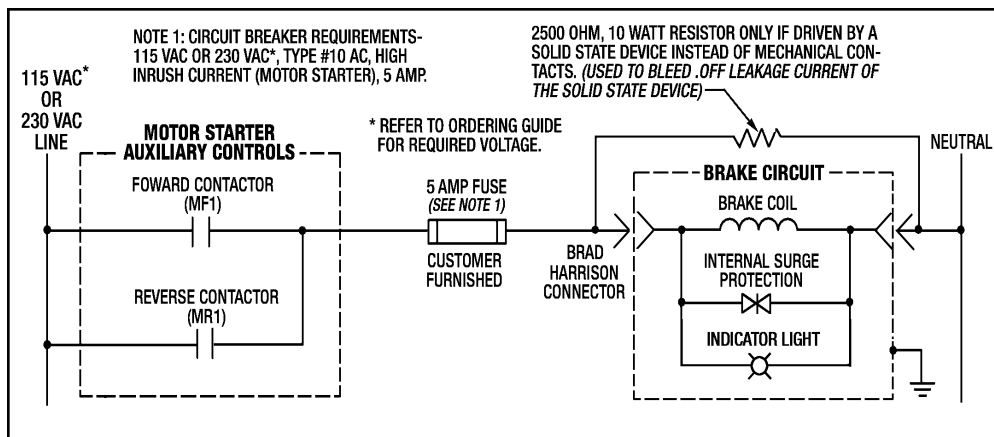

Figure 3.7 - Electrical Wiring Diagram
If your *MagnaShear* Motor Brake is shipped pre-assembled to a drive motor, it is filled with oil and ready to run except for installing the Air Breather (#45) and electrical wiring. (See Figure 3.7 and 3.8 for Electrical Wiring Diagram.)
2. Push the Fan (#120) back against the small shoulder on the Hub (#2), then slide the Brake Unit onto the motor shaft as far as it will go. Align the (4) mounting holes with the motor and attach with (4) Mounting Bolts (#149) and (4) Lockwashers (#127). Finger tighten the (4) bolts. **Make sure the brake is snug against the motor face.**
3. Connect the electrical service to the Brad-Harrison Connector and actuate the brake coil to release the brake. (See Figures 3.7 & 3.8)
3. Connect the electrical service to the 5-Pin Brad-Harrison Connector and actuate the brake coil to release the brake. (See Figures 3.7 and 3.8)
4. Evenly torque the (2) Screws in the Clamping Collar (#111) to **20 Lb. Ft.**
(See Figure 3.7 and 3.8)